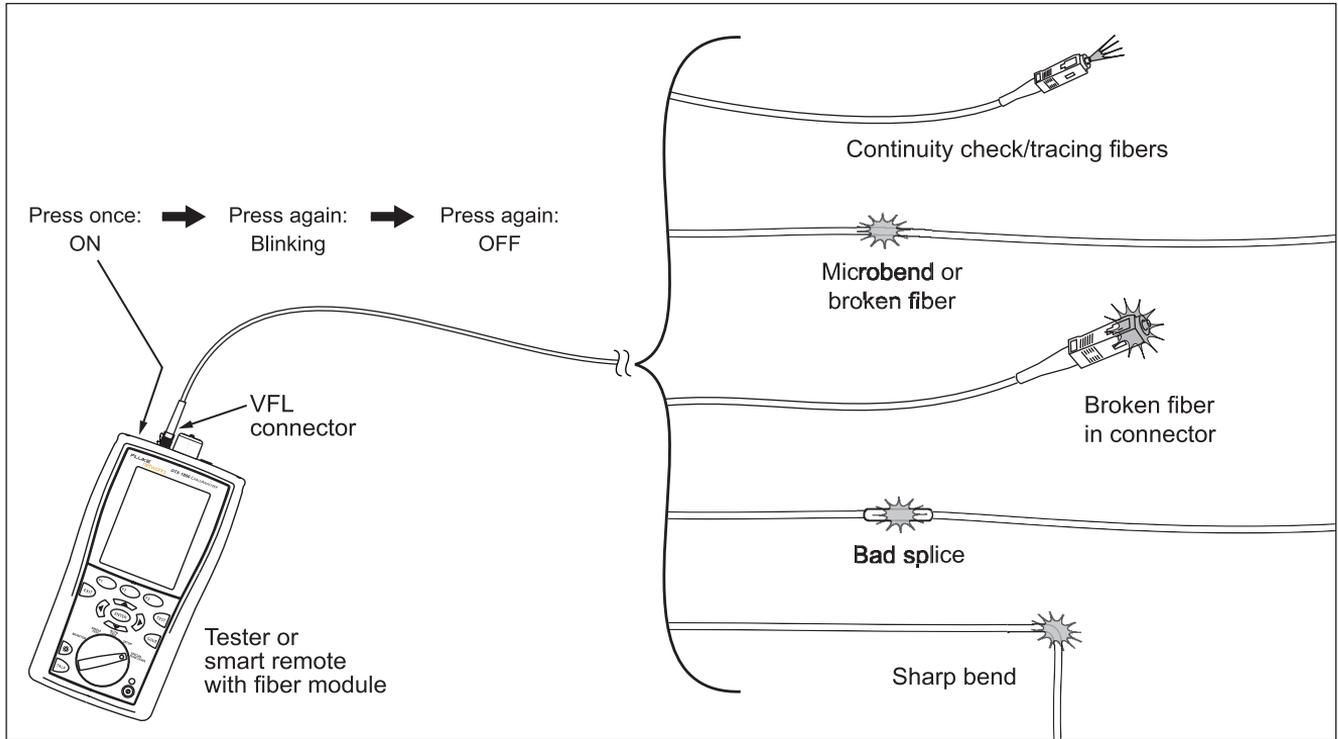

Figure 7-2. Using the Visual Fault Locator
- 3 Turn on the visual fault locator by pressing the button near the VFL connector, as shown in Figure 7-2. Press again to switch to flashing mode. Press again to turn off the locator.
- 4 Look for the red light to locate fibers or faults, as shown in Figure 7-2.